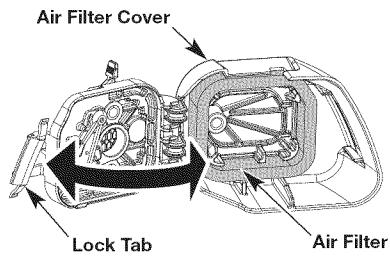

Fig. 24
1. Open the air filter cover by pressing the lock tab in and pulling out on the air filter cover (Fig. 24).
2. Remove the air filter (Fig. 24).
6. Replace the air filter into the air filter cover (Fig. 24).
7. Close the air filter cover by swinging it to the left and then pressing it down until the lock tab snaps into place (Fig. 24).